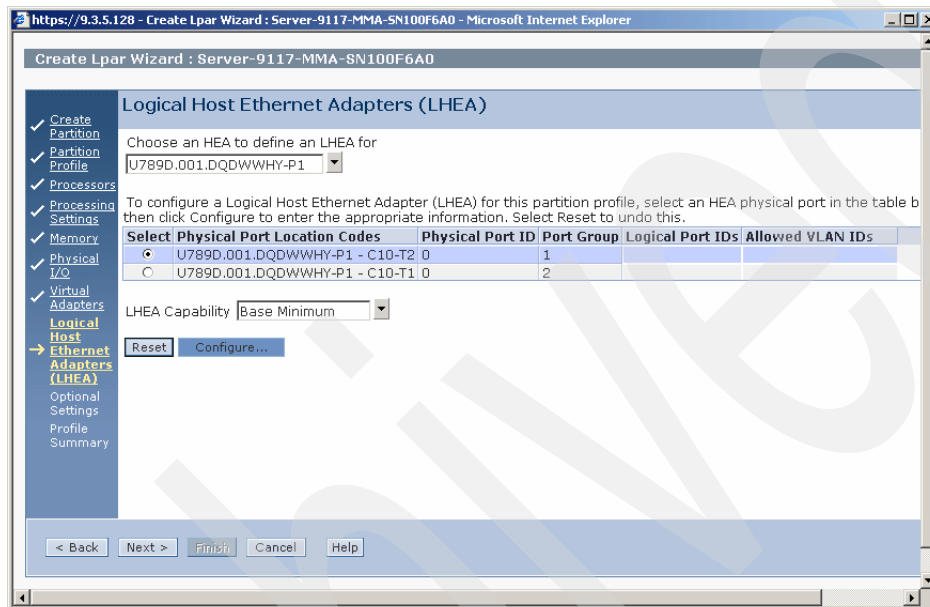

Figure 4-4 LHEA first step configuration
- ▶ In the Create Lpar Wizard window (as shown in Figure 4-4):